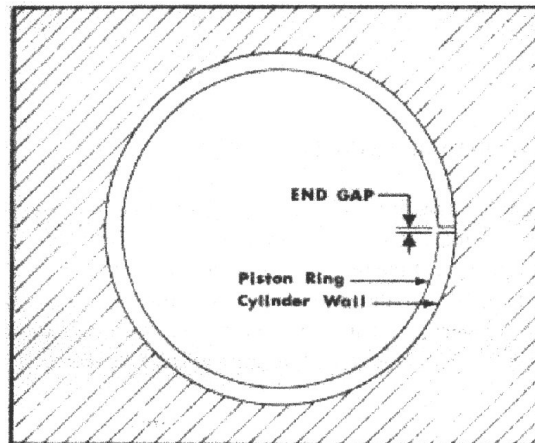

FIGURE 31 - PISTON RING END GAP
1. Check the gap of each piston ring by inserting it into its cylinder bore. Square it with the wall by tapping with a piston. Insert a feeler gauge as shown in Figure 31. Ring gap should be .007" to .015". If the gap is less than .007", place a small file in a vise, hold the ends of the ring, and enlarge the gap. if the gap is greater than .015", check the cylinder bore diameter which should be 2.562" to 2.563".